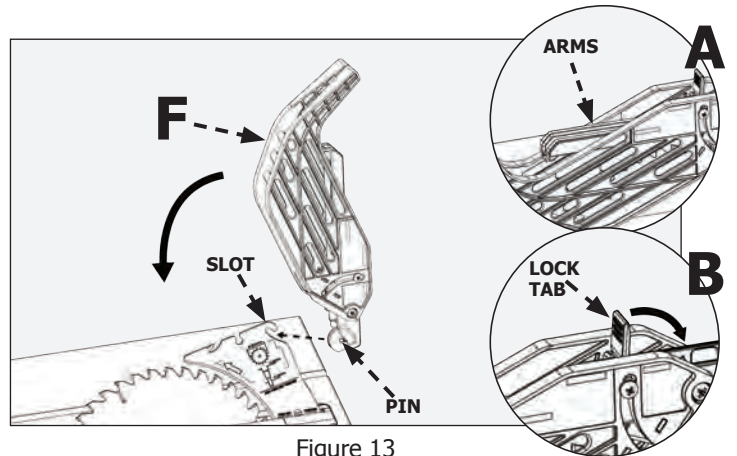

Figure 13
While holding the blade guard assembly (F) in a vertical position, as shown in Fig. 13, pull the blade guard assembly pin all the way up into the rear slot on the riving knife.